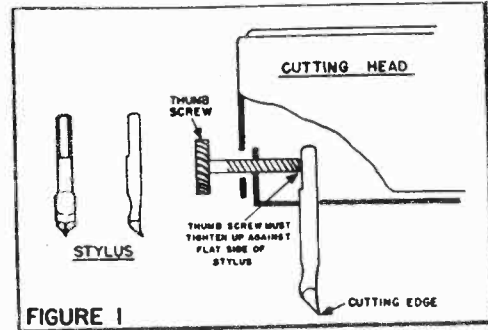
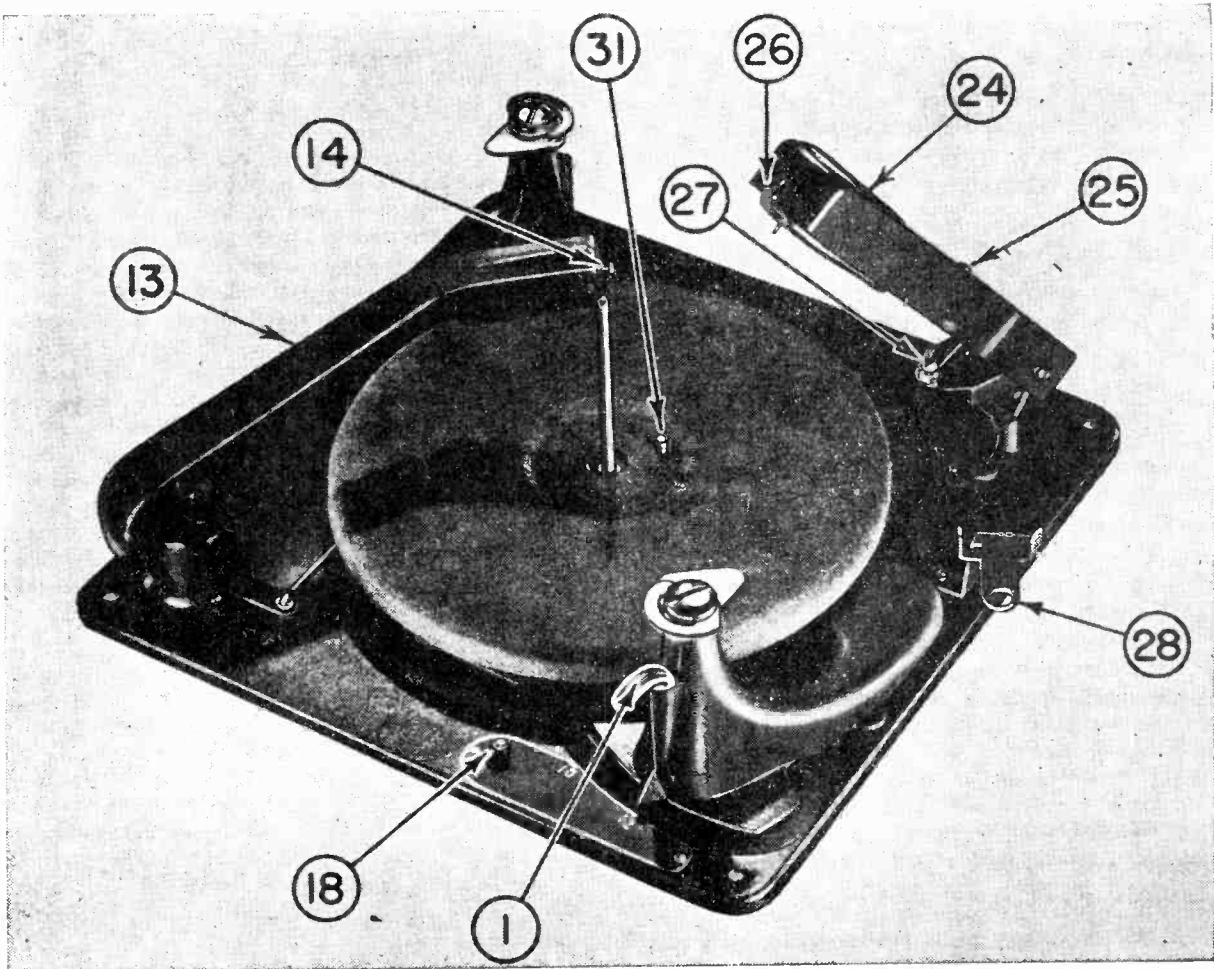

FIGURE 1
FIGURE 2
SETTING UP RECORD CHANGER. Before plugging in line plug be sure the automatic record changer is properly set up for operation. The bracket to which the pickup arm (13-Fig. 2) is fastened should be removed as it is used for shipping purposes only. The bracket (28-Fig. 2) to which the recording arm (24-Fig. 2) is fastened should be removed and screwed in the position shown (28-Fig. 2). The turntable is next placed on the spindle and revolved until it drops into position.
PICKUP. The pickup (13-Fig. 2) is the small arm located at the left of the turntable. To insert a needle, lift up the pickup, loosen the thumb screw (14-Fig. 2) and insert the needle in the small hole underneath the arm. Next, tighten the screw securely to clamp the needle in place.
- (1) Move the lever (1-Fig. 2) to the manual position.
- (2) Place the record to be played on the spindle of the turntable.
- (3) Push the motor switch to start the motor.
- (4) Lift up the pickup and place on the smooth outer rim of the record.
- (5) Adjust the volume and tone control to suit your requirements.
- (1) Set the lever (1-Fig. 2) to 10 or 12 depending on which size records are to be played. Ten 12 inch or twelve 10 inch records can be stacked on the changer at one time. Do not mix ten and twelve inch records. After the records to be played have been selected, line them up with the center holes and slip them on to the center post of the turntable.
- (2) Push the motor switch to start the motor.
- (3) Push the reject button to place the first record in place. The records will be played in order and the last one will be repeated until the motor is turned off.
- (4) Adjust the volume and tone control to suit your requirements.
- (5) To reject a record, push the reject button and the next record will fall into the playing position. After the last record has been played turn the motor off and return the pickup to its
CUTTING HEAD. The cutting head is located in the large arm located at the right of the turntable (24-Fig. 2). To insert a stylus, lift the cutting head arm vertically, loosen the set screw and insert the stylus with the V-shaped point of the stylus up (See Fig. 1). Insert the stylus to the full depth of the hole and tighten the set screw securely.
CUTTING RECORDS. Move the lever (1-Fig. 2) to the manual position and place a blank disk on the turntable, making sure that the stud on the turntable projects through one of the three small holes near the center of the disk. Tune in a radio station as instructed in the section on radio operation. Push the button marked **radio recording** and adjust the volume control marked **radio-phonograph** until the eye just closes on the peaks or loud passages. Never allow the eye to overlap. The microphone volume control should be in the "off" position. After the proper level of recording has been determined, raise the cutting head to about 45 degrees and move it to the left until it is over the edge of the record. Lower the cutting head gently to the record. The radio program is now being recorded. As the record is being cut, a small shaving will be thrown off from the stylus and gradually will move towards the center of the record. The shaving can be pushed with the fingers towards the center and wadded up before removing. After the record is complete, raise the cutting head to about a 45-degree position, move it to the left and return it to its rest. The record is now cut and is ready for immediate playing. To play this record merely press the **phonograph**
adjustment due to shipping, and the following information is given so that you may determine if the head is properly adjusted for satisfactory recording. Place a blank record on the turntable without the motor running. Lower the cutting head to this record and note if the set screw which holds the stylus in place is in the center of the slot on the end of the cutting head. If this condition exists, the cutting head is in the correct position. If not, adjust screw (27-Fig. 2), which is located in the rear of the cutting arm and becomes exposed when the arm is lifted to a vertical position. To make the correct adjustment, this screw should be raised or lowered as required, and its lock nut tightened. Next, make a short blank recording to determine if the correct spring tension is applied to the cutting head. After this blank cutting is made, examine the record to see if the grooves are of the same width as the space between the grooves. If the groove is found to be too shallow (not as wide as the space), turn screw (25-Fig. 2), which is located on the top of the cutting arm, towards the rear, in a clockwise direction. This will increase the depth of cut. If, on the other hand, you find the groove is too deep (wider than the space), turn this screw to the left and make another test cutting to determine if the correct spring adjustment has been made. The proper adjustment is one in which the groove is exactly as wide as the uncut portion between grooves. Successful recordings cannot be made unless the cutting head is correctly adjusted.
- FIG. 1 -
The turntable is keyed to a small drive pulley, which in turn drives a large (3 inch) pulley, through a spring belt, both of these units being located on top of the base plate. (See Fig. 1). The 3 inch pulley transmits power by direct drive to another small pulley
4. The first momentary contact of the automatic change switch is all that is necessary to start the changing cycle. When the switch closes, a small electro magnet is energized. The electro magnet pulls an armature back out of the way, permitting a drive pawl which is mounted on the cam wheel to fall down and engage in one of the notches which are provided on the upper surface of the main drive wheel. (See Fig. 2.)